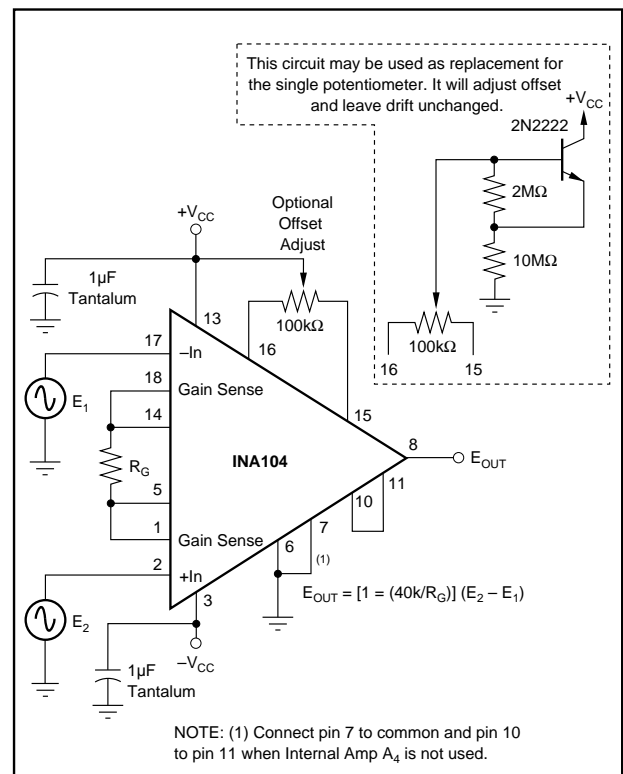
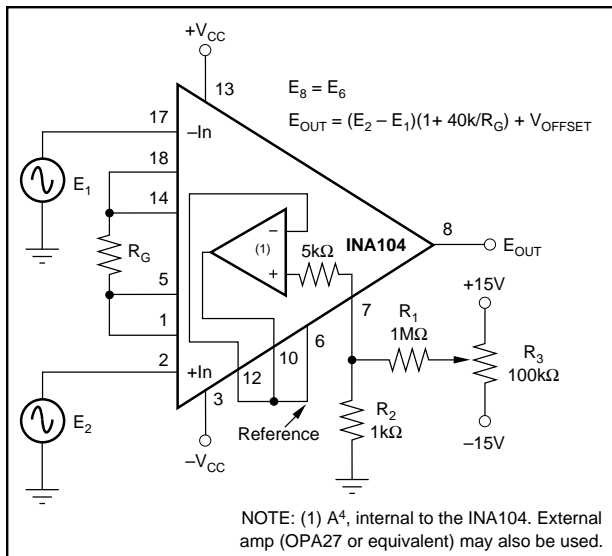
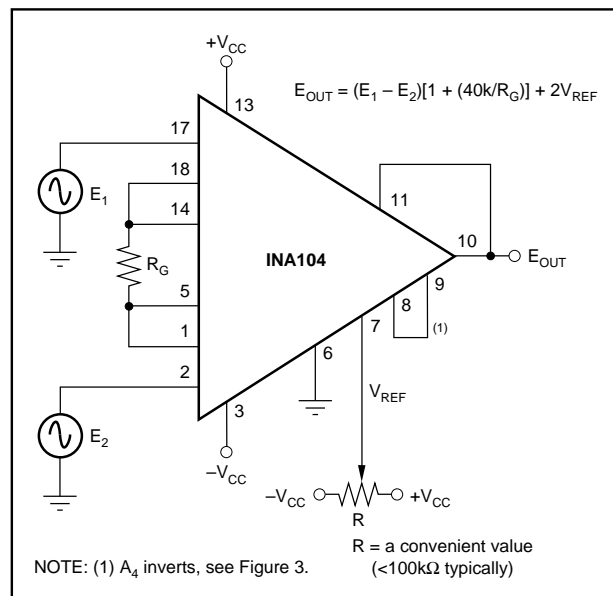

FIGURE 1. Basic Connection for the INA104 Including Optional Input Offset Null Potentiometer.
FIGURE 2. Optional Output Offset Nulling or Offsetting Using an Amplifier (Low Impedance to Pin 6).
FIGURE 4. Output Offsetting.
At TA = +25°C, VS = ±15V power supply and in circuit of Figure 1 unless otherwise noted.
At  $T_A = +25^\circ\text{C}$ ,  $V_{CC} = 15\text{V}$ , and in circuit of Figure 1, unless otherwise specified.
Figure 1 shows the simplest configuration of the INA104. The gain is set by the external resistor,  $R_G$ , with a gain equation of  $G = 1 + (40k/R_G)$ . The accuracy and TCR of  $R_G$  contribute directly to the gain accuracy and drift.
Pins 1, 5, 14, and 18 are accessible so that a four-terminal connection can be made to  $R_G$ . (Pins 1 and 18 are the voltage sense terminals, since no signal current flows into the operational amplifiers' inputs.) This is useful at high gains, where the value of  $R_G$  is small. The optional offset adjust capability is shown in Figure 1. The adjustment affects only the input stage component of the offset voltage. Thus, the null condition will be disturbed (if input offset is not adjusted to zero) when the gain is changed. Also, the input drift will be affected by approximately  $0.31\mu V/^\circ C$  per  $100\mu V$  of input offset voltage that is trimmed. Therefore, care should be taken when considering use of the control for removal of other sources of offset.
It is frequently desirable to null the input component of offset (Figure 1) and occasionally that of the output (Figure 2). The quality of the potentiometer will affect the results, therefore, choose one with good temperature and mechanical-resistance stability. The procedure is as follows:
3. Adjust the 100kΩ potentiometer in Figure 1 until the output reads  $0V \pm 1mV$  or desired setting. Note that the offset will change when the gain is changed.
4. If the output component of offset is to be removed or if it is desired to establish an intentional offset, adjust the 100kΩ potentiometer in Figure 2 until the output reads  $0V \pm 1mV$  or desired setting. Note that the offset will not change with gain, but be sure to use a stable amplifier with good DC characteristics. The range of adjustment is  $\pm 15mV$  as shown. For larger ranges, change the ratio of  $R_1$  to  $R_2$ . The op amp is used to maintain a low resistance ( $<0.1\Omega$ ) from pin 6 to Common to avoid CMR degradation.
The basic circuit connection for the INA104 is shown in Figure 1. The output voltage is a function of the differential input voltage times the gain. Figure 1 does not include additional internal op amp  $A_4$ . Power supply bypassing with a  $1\mu F$  tantalum capacitor or equivalent is always recommended.
Output offsetting (“zero suppression” or “zero elevation”) may be more easily accomplished with the INA104 than with most other IC instrumentation amplifiers as shown in Figure 4. The use of the extra internal op amp, A4, means that CMR of the instrumentation amp is not disturbed, and that a convenient value of variable resistor can be used. The circuit shown in Figure 2 can also be used to achieve the desired offsetting by scaling the resistors  $R_1$  and  $R_2$ . A low impedance path from pin 6 to Common should be provided to achieve the high CMR specified. Resistance above  $0.1\Omega$  will cause the CMR to fall below 106dB.